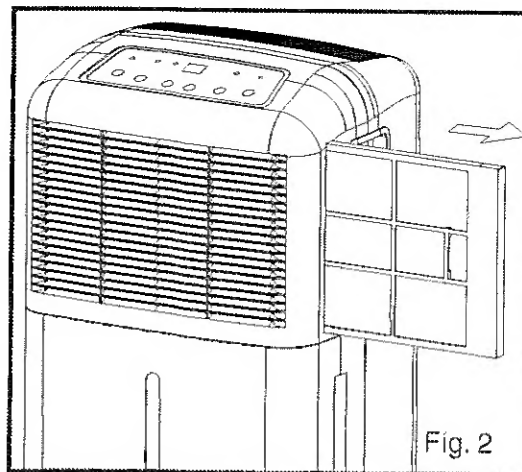

Fig. 2
1. Grasp the filter handle, and pull the filter out. The filter will slide out easily. See Fig. 2